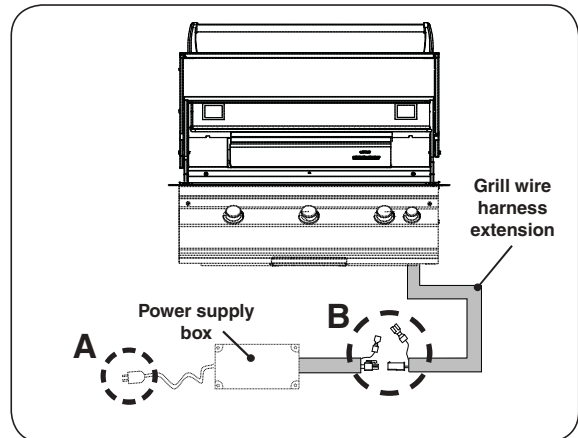

Fig. 16-2 Disconnect grill connections
- Locate the power supply box inside of the island enclosure and disconnect the power cord (See Fig. 16-2, **A**).
- Disconnect the grill wire harness extension connectors from the power supply connectors. See Fig. 16-2, (**B**)